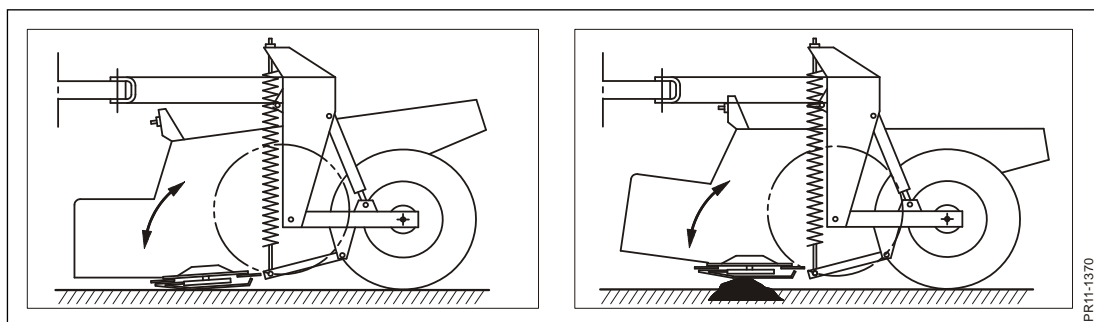

Fig. 3-1
**Fig. 3-1** The cutting unit of the machine with the cutterbar is floating suspended in two strong springs for vertical movement. Furthermore, the cutting unit can tip backwards. This provides the cutterbar with an easy swivelling movement when hitting stones or the like.